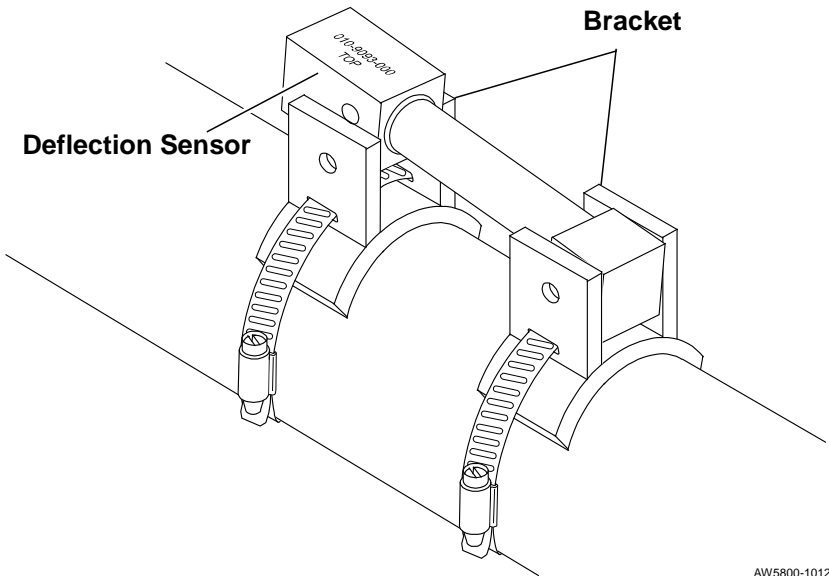

Figure 30. Inserting the Sensor
- D. Insert the deflection sensor into the brackets with its cable extending **toward** the side of the vehicle where you'll route the sensor extension cable to the firewall. The **TOP** lettering on the sensor should face **up**. See Figure 30, next page.
- E. Align the deflection sensor with the bracket holes. See Figure 30.